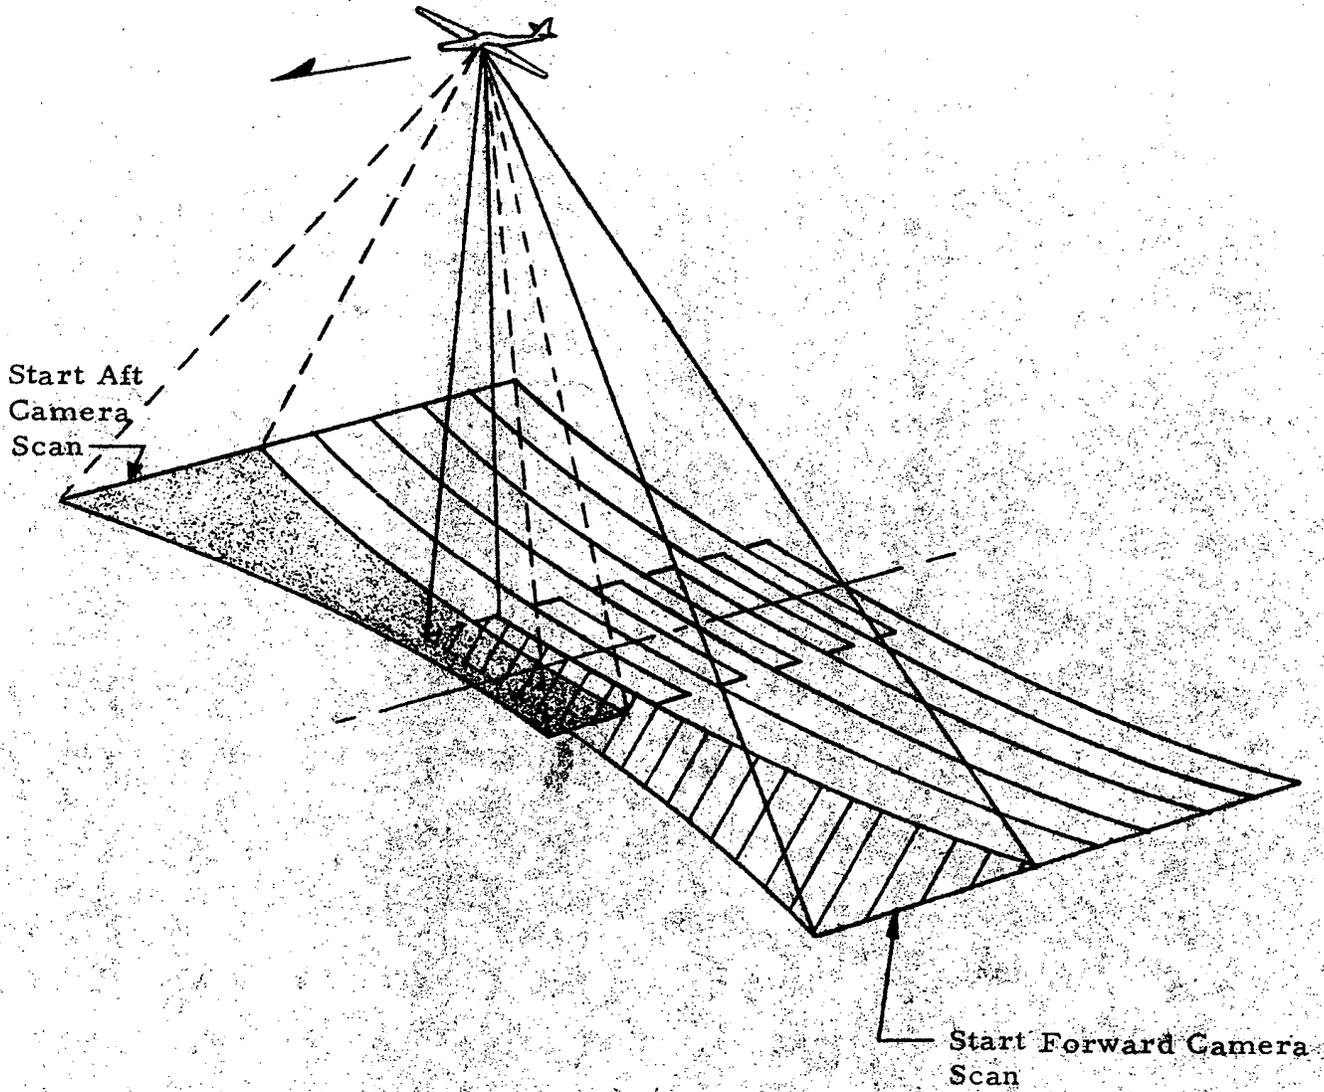

Figure 2-2. Aerial Panoramic Photography, Type II
2-3. Photographic coverage of the Type II system is represented in Figure 2-2. In normal flight attitude the two cameras simultaneously scan the earth across the ground track at the following angles measured from a line between the combined camera CG and nadir: (1) the forward camera (B unit) looks 8.5° aft and scans from 63° to the left to 30° to the right, and (2) the aft camera (A unit) looks 8.5° forward and scans from 63° to the right to 30° to the left.